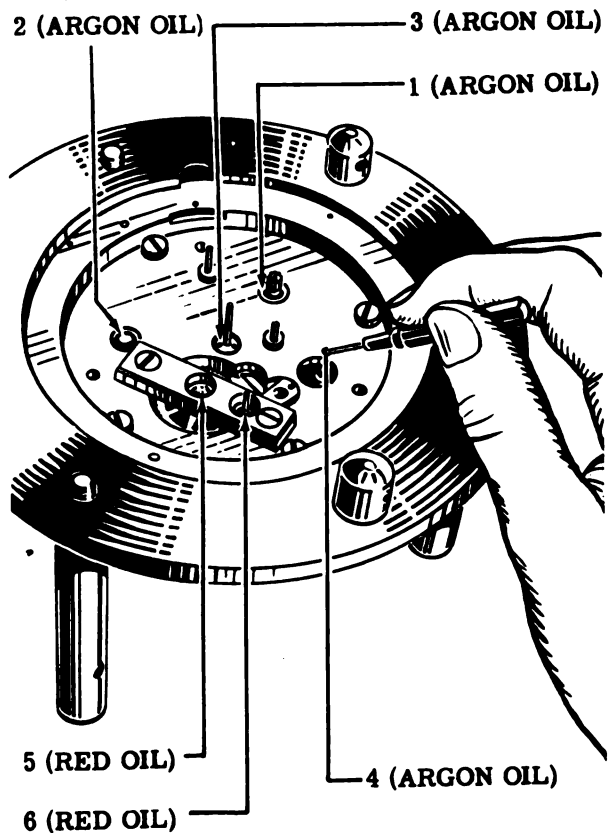

Figure 79
48. Turn the movement over. Using argon oil, oil the fusee lower bushing (arrow No. 1), barrel lower bushing (arrow No. 2), center lower bushing (arrow No. 3) and sustaining pawl pivot (arrow No. 4). See Fig. 79.
49. Using red oil, oil the third and fourth lower jewels (arrows Nos. 5 and 6). See Fig. 79.